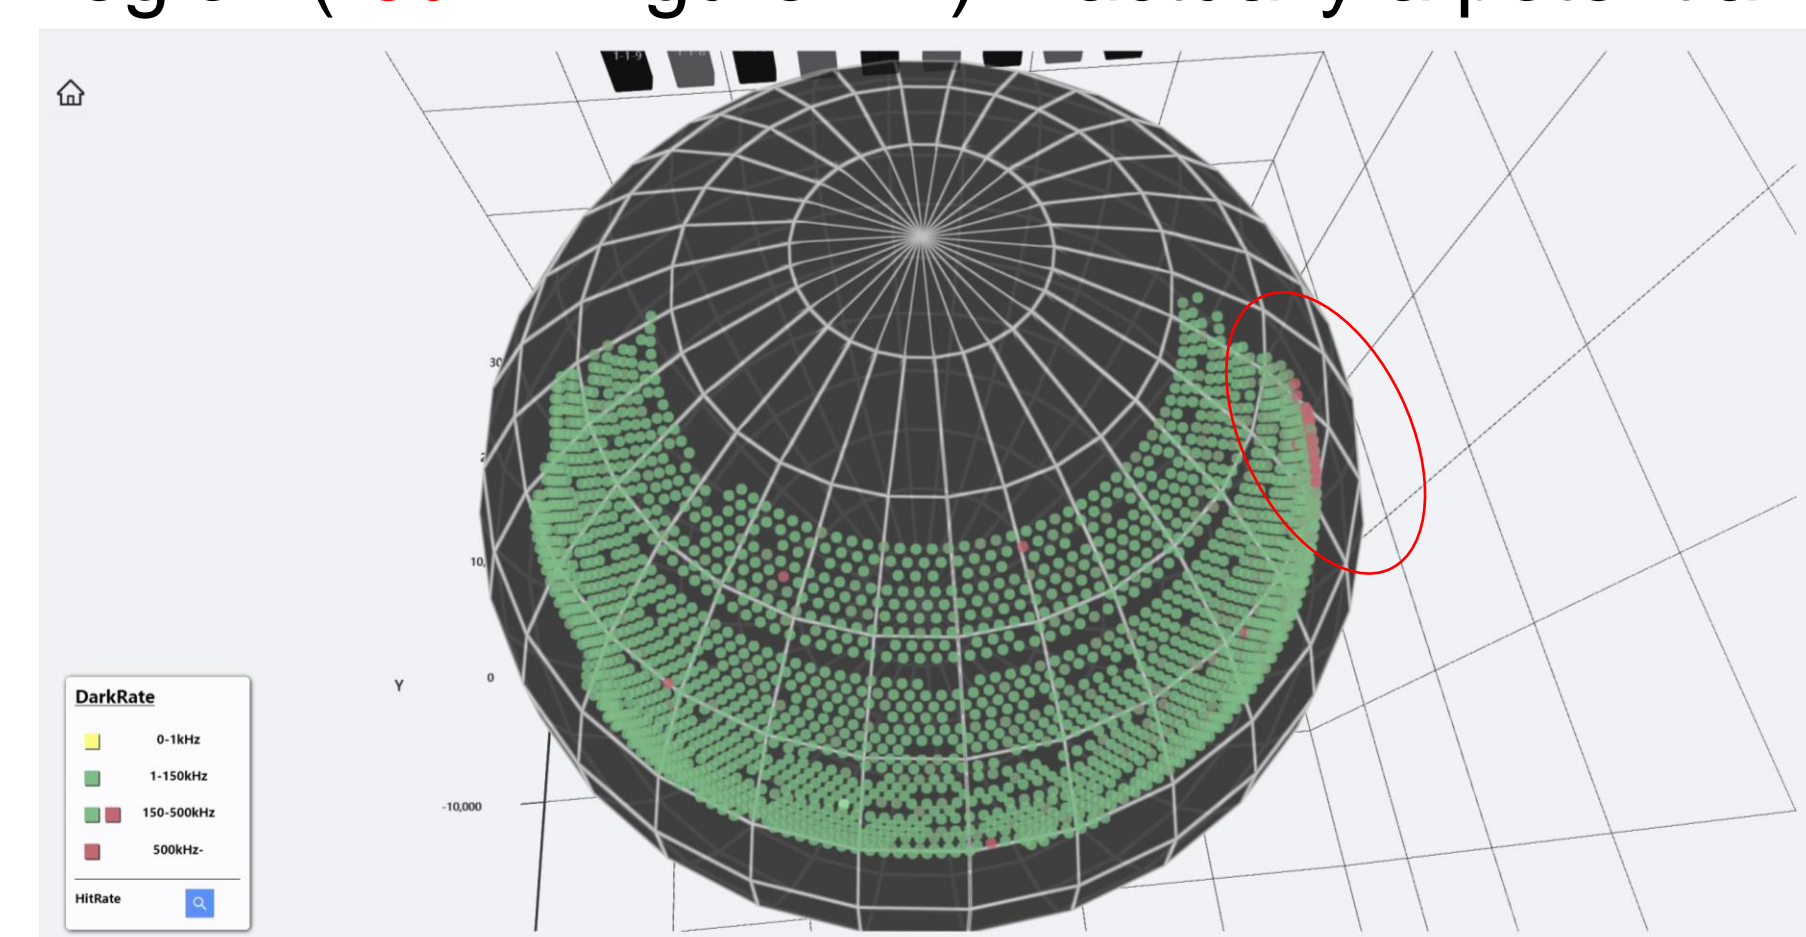

Figure 11. DCR monitoring. Each point represents an installed PMT
- High DCR region (red in Figure 11.) – actually a potential light source